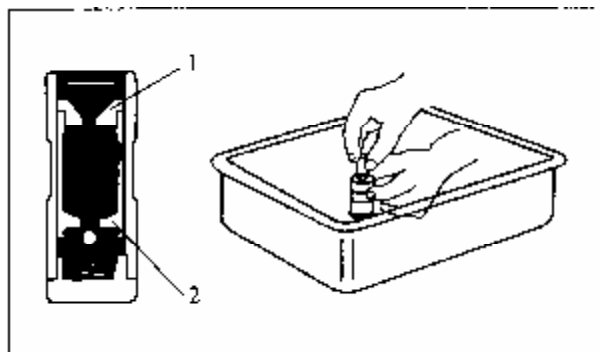

Figure 3-43 Discharge air from tappet
3.4.10 Before installing valve tappet onto gasoline engine, discharge the air its inner chamber first and recheck to ensure air is discharged completely. The methods are as follows (see Figure 3-43):